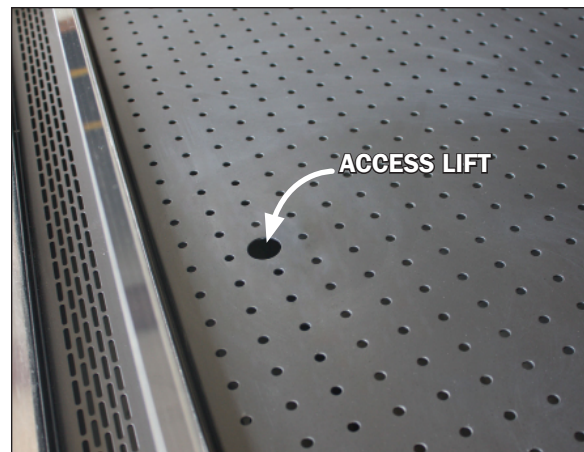

Fig. 9 Base deck pre-drilled access lift
2. To reach the fans and pressure plate first remove the base deck with help of the pre-drilled access lift (Fig. 9 & 10). **Note: It is recommended that more than one person lift the deck.**